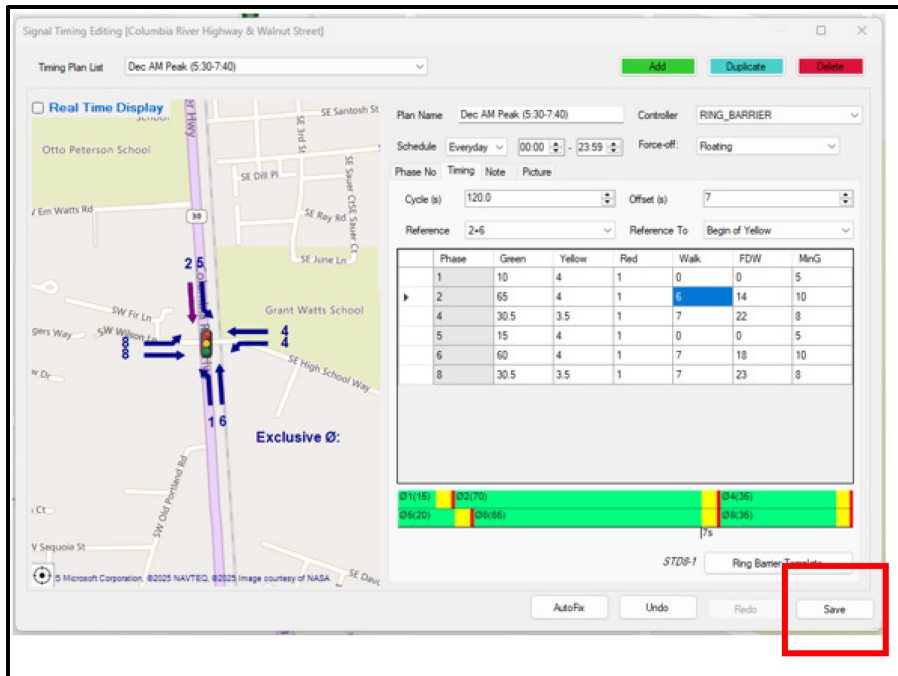
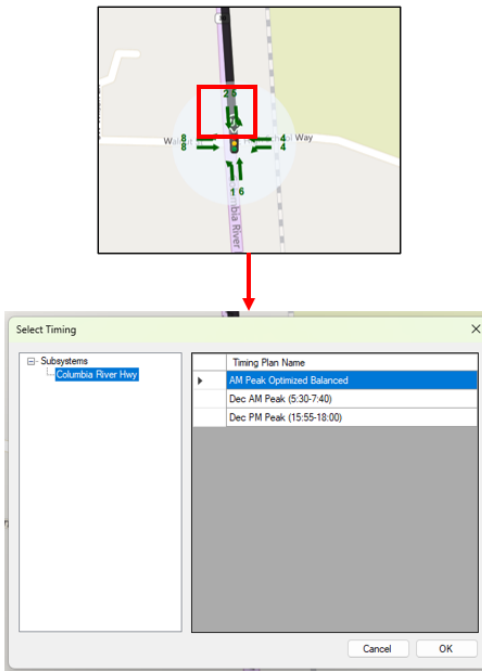
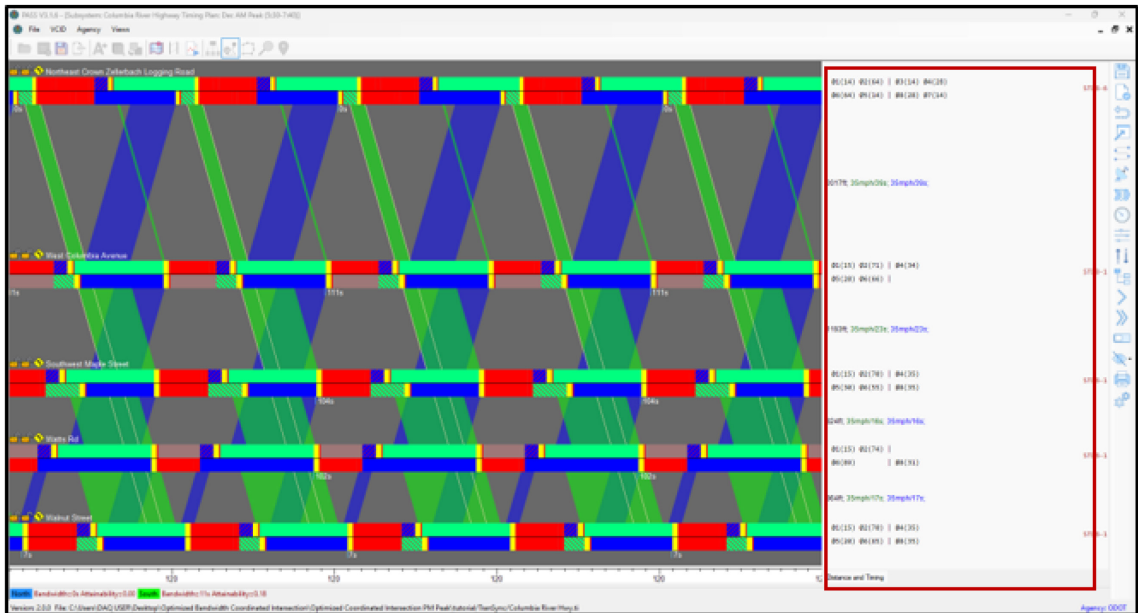

Figure 46: Saving Timing Plans in PASS
Figure 47: Displaying a Time Space Diagram
Figure 48: Time Space Diagram
- iv) After editing/inputting the appropriate phases and timings, click on save as shown in Figure 46. Then, double-click the icon resembling a snake on the map in PASS as shown in Figure 47. Options will be provided depending on how many timing plans have been saved in PASS. Select the desired timing plan, and a Time-Space Diagram (TSD) will be presented.
- v) After clicking on the desired timing plan as shown in Figure 47, TSD will appear. This TSD window will give information about the phase number with associated timings in a ring-barrier structure with corridor segment speeds and offsets as shown in Figure 48.